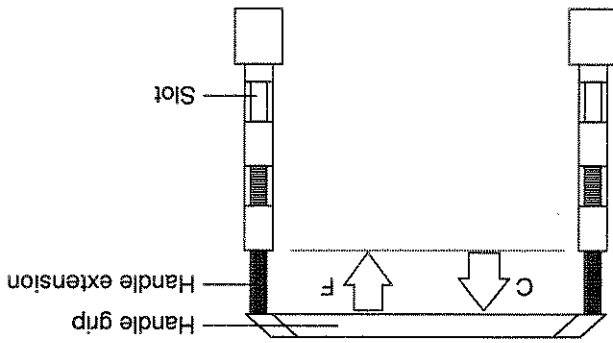

Fig. 3-6 Handle position 2: Maximum length
2. Push the handle grip downwards until the ends of the handle extension lock into the lower slots on the handle sides (F, see figure 3-6)).